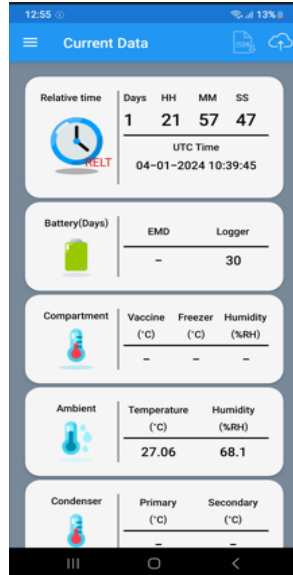

Figure 29 Current Data View on Mobile Application Dashboard
- Once the data is downloaded, data can be viewed on the application dashboard as shown in figure 29.